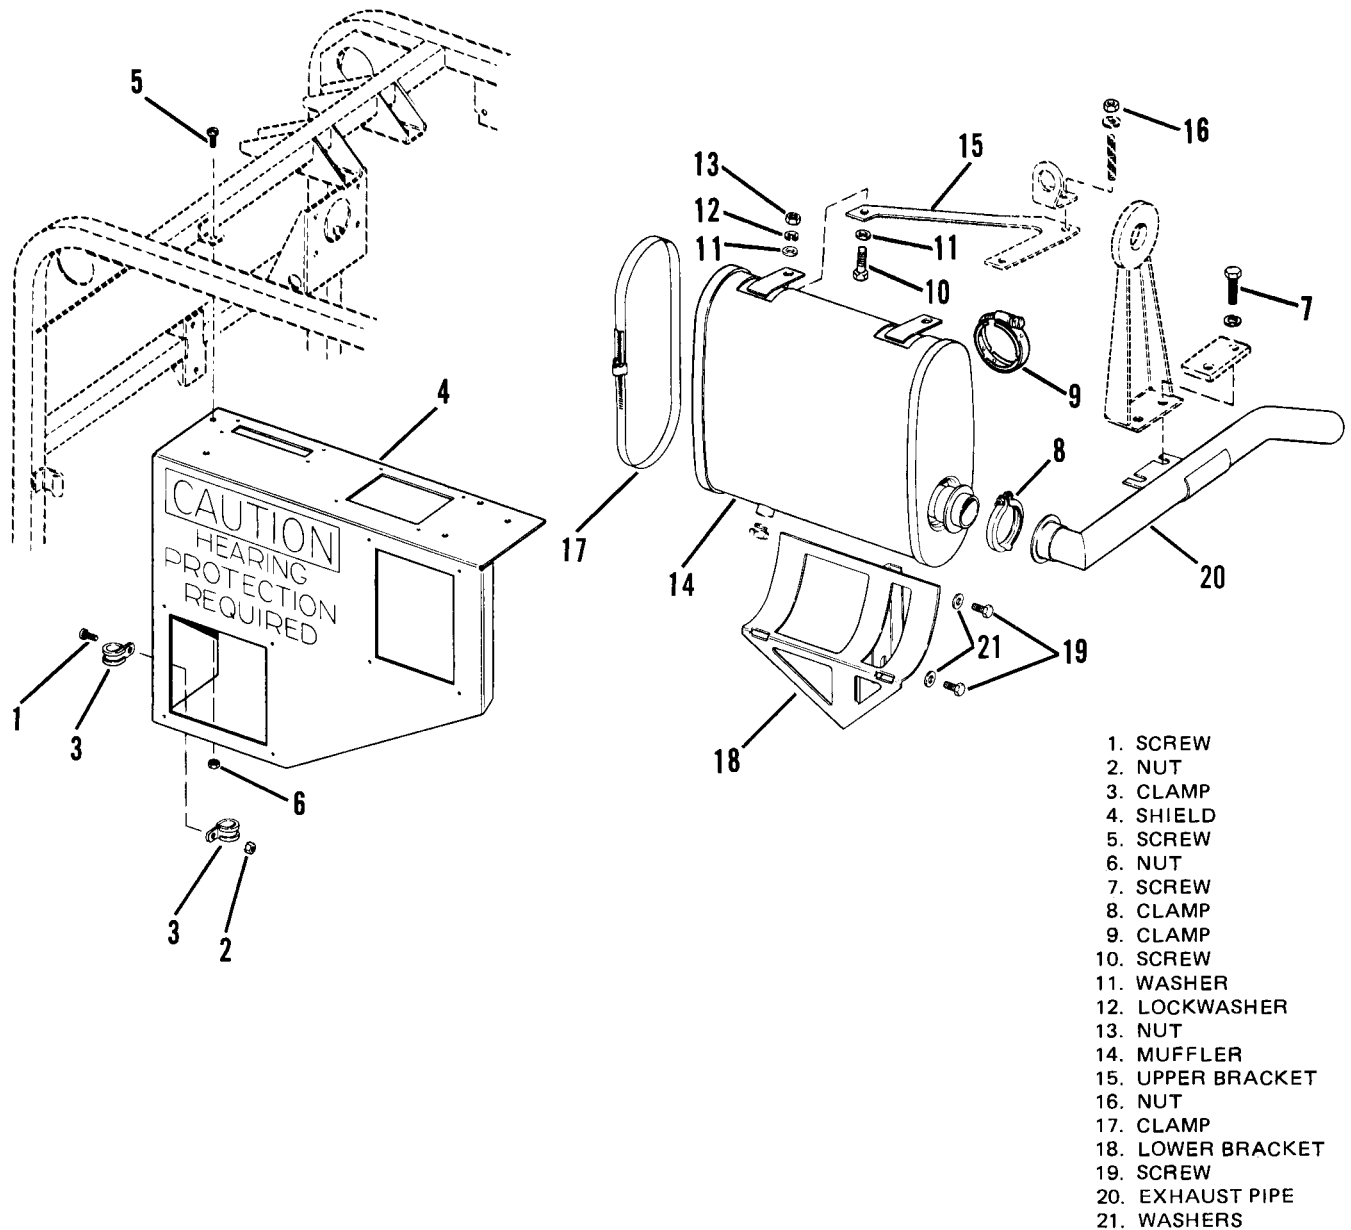

Figure 4-44. Engine Exhaust.
4-54. MUFFLER. (See Figure 4-44)
- (1) Disconnect the negative (-) battery cable from the battery.
- (2) Tag and disconnect wiring from the hourmeter (1, Figure 4-44
- (3) Remove nuts (2), screws (3) and hourmeter (1).